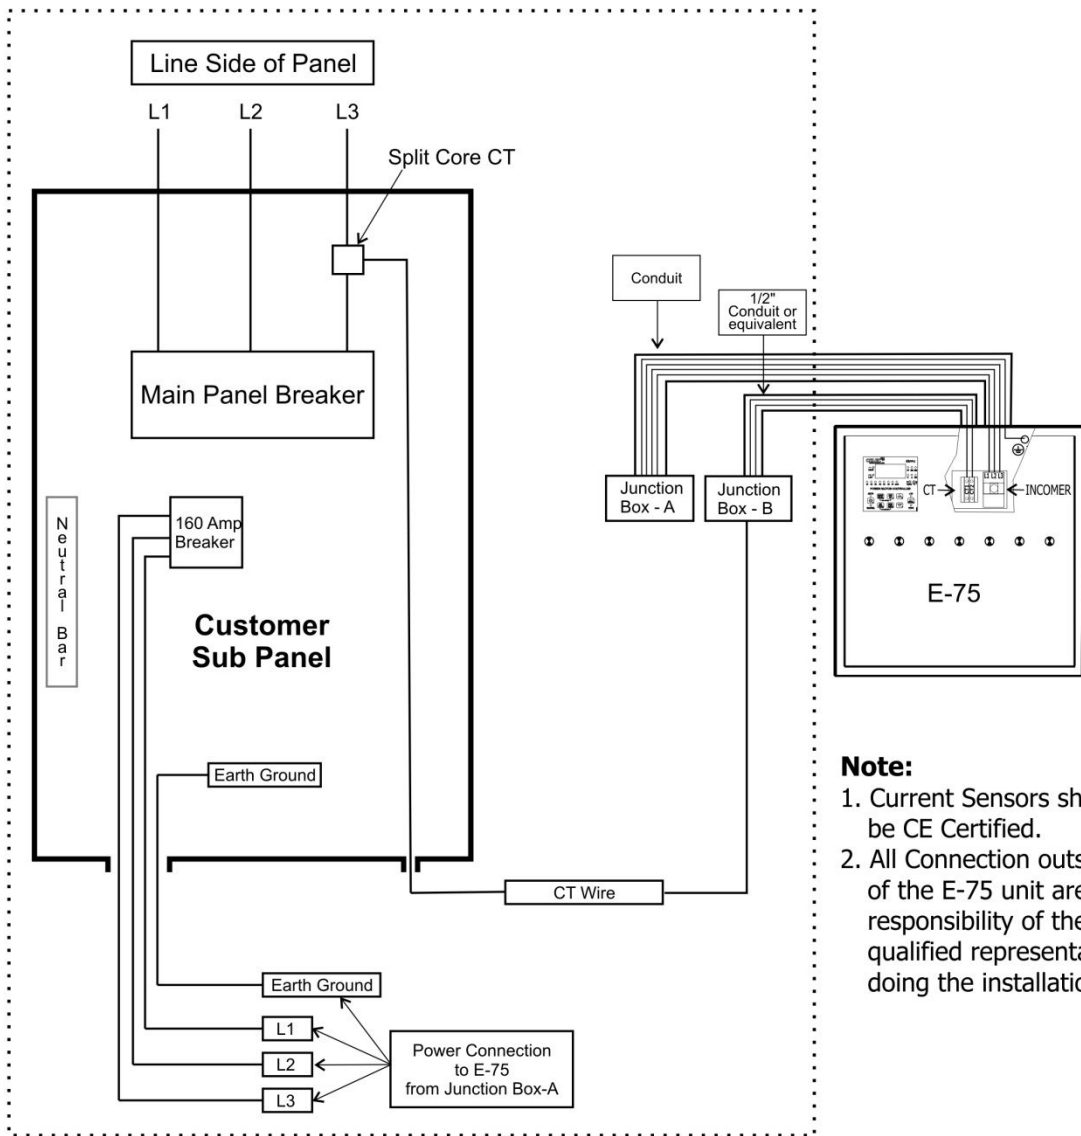

Figure-2
1. Remove Sub Panel cover exposing internal wiring and breakers. (Check Figure- 2)
5. Connect power cables to load bracket switch of E-75 as per items 1, 2, 3 above.